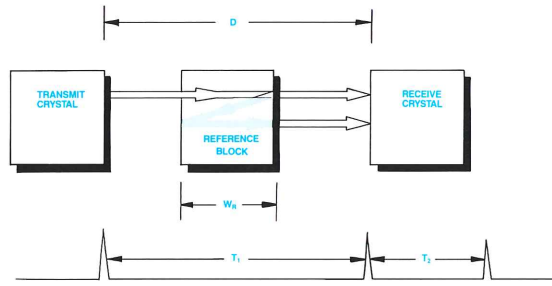

Figure 1. Diagram of the pulse path through a reference block and idealized waveform sensed at the receiving crystal.
The automated environment offers many challenges in the testing of nodular iron. The usual procedure in ultrasonic testing of parts is to place the part in a water bath between two crystals. One crystal is pulsed to emit an ultrasonic burst. The second crystal receives the pulse after it passes through the part. Figure 1 shows a diagram of the pulse path along with an idealized waveform.
To measure nodularity, the distance (D) between the crystals must be known along with the sonic velocity of the water in the tank (V_W). These values are then used as constants to calculate the size of a part under test and the sonic velocity through the part. One way to automatically measure D and V_W is to put a reference block of known size and composition into the fixture. The system then pulses the transmitting crystal and measures T_1 and T_2 (Figure 1). T_1 is the time required for the pulse to travel from the transmit crystal through the reference block to the receive crystal. T_2 is the additional time required for a reflected pulse, which must traverse the reference block twice, to reach the receive crystal. Time T_3 — the time required for the pulse to travel the distance between the two crystals with the reference block removed — is also measured.